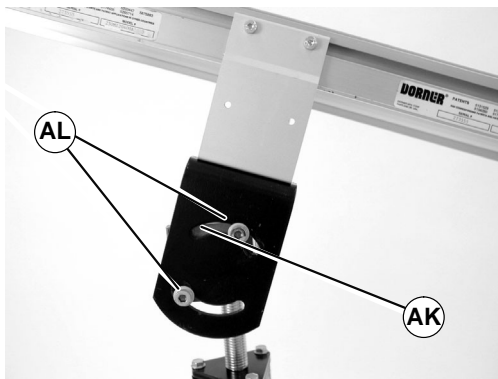

Figure 24
**NOTE:** To rotate stand, screws (AL of Figure 24) may need to be re-located to other holes in the stand top end plate (AK).
1. Loosen flange socket screws (AL of Figure 24) on both sides of stand.